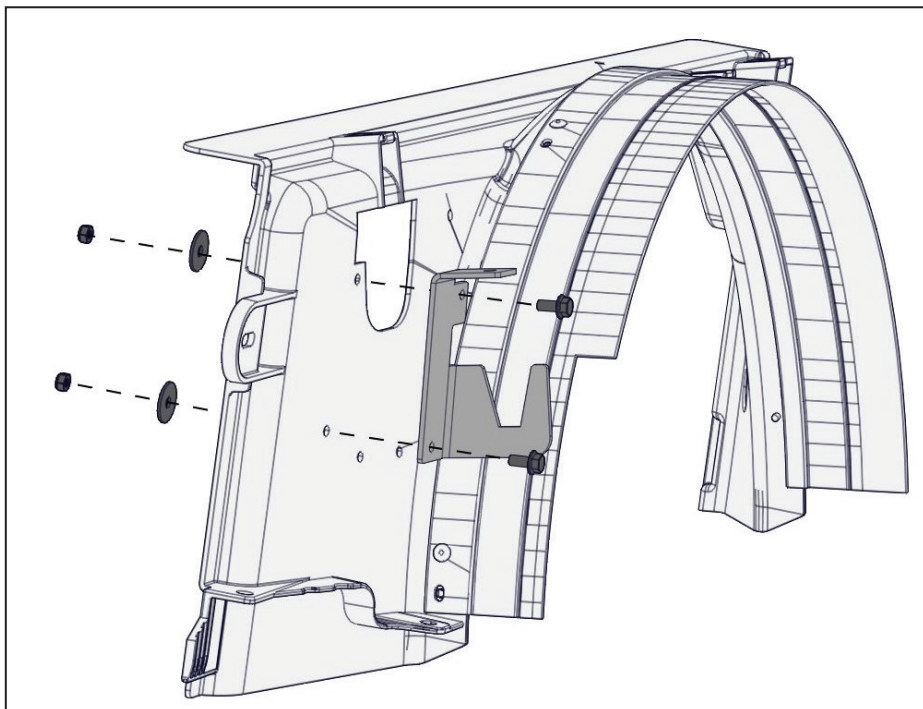

Figure 44 — Installing the power steering fluid reservoir bracket
- Install the supplied steering reservoir bracket to the shroud using (×2) of the supplied fasteners. Place the (×2) supplied fender washers on the radiator side of the fan shroud and secure with the supplied nylon lock nuts (Figure 44).